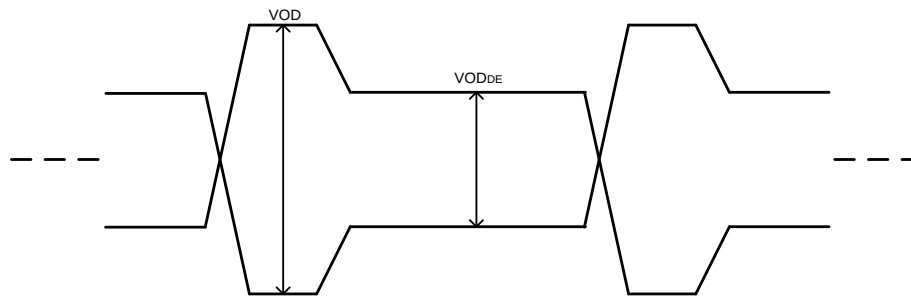

Figure 13. VOD and VOD_{DE} Levels
- (1) The output drivers are capable of providing higher VOD and DEM levels (max settings are 7). For more VOD and de-emphasis levels, refer to Table 10.
(2) See Figure 13.